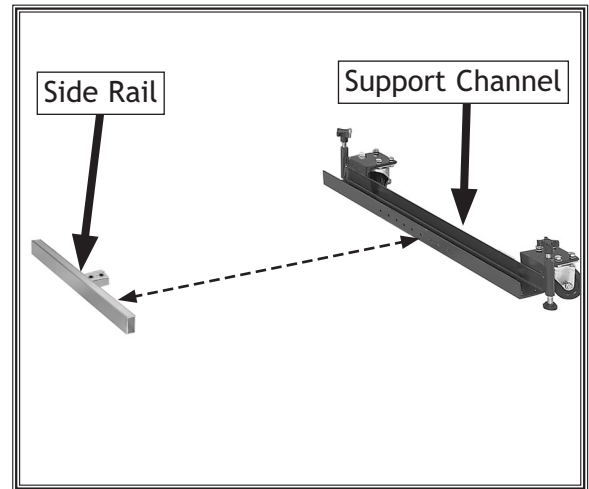

Figure 5. Measuring distance between side rail and support channel (mobile base and extension table not shown for clarity).
8. Measure the distance between the outer edge of the side rail and the inside edge of the side channel, as shown in Figure 5.